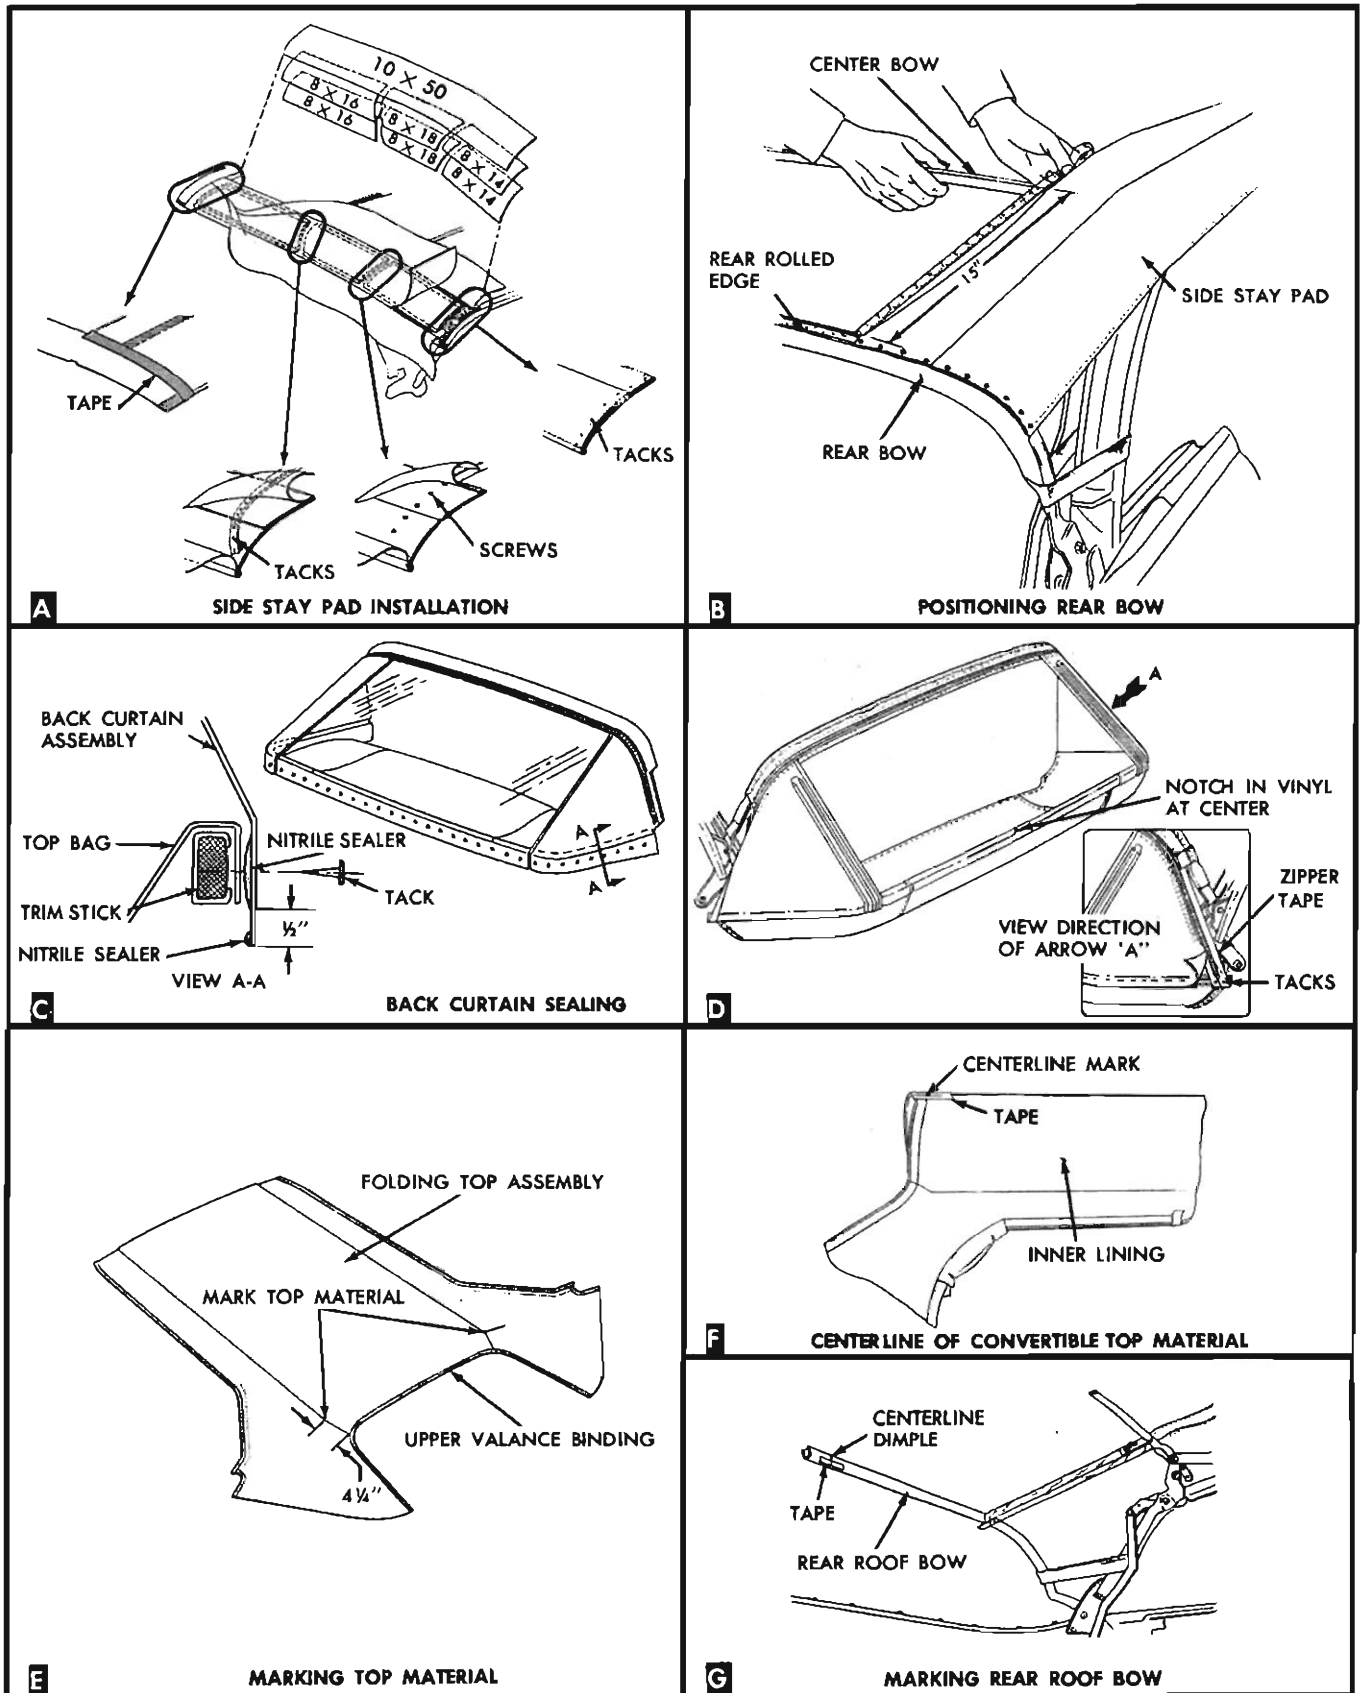

Fig. 36—Installing New Folding Top Trim Material
3. Tack side stay pads in conventional manner to rear roof bow and stay tack pads to front roof rail. Make sure inboard edge of pad is properly aligned within depressions in bow and rail. Stay tack pads to front bow. Inboard edge of pad should be located within 1/4" of outboard edge of front bow felt silencer. Install pad to center bow with screws. Make sure inboard edge of pad is properly aligned within depression in bow. Install stay pad wadding (fig. 36, A) in conventional manner using an approved trim cement.
4. Trim selvage end of side stay pads just forward of rear rolled edge of rear roof bow (fig. 36, B).
6. Place back curtain window assembly on a clean covered work bench with exterior (vinyl) surface of back window valance facing down. (The large pliable back window must be handled carefully to avoid possible damage due to scratches, abrasions, etc.). Apply a bead of convertible top sealer (nitrile) along lower edge of back curtain material in area which will be tacked to rear and rear quarter trim stick (View "A-A" in Figure 36, C).
7. Apply a bead of convertible top sealer (nitrile) along lower selvage edge of back curtain (fig. 36, C).
NOTE: *Notch in back curtain vinyl at lower edge indicates centerline of back curtain assembly (fig. 36, D). In addition, back curtain lower edge should extend 1/2" below lower edge of sticks as shown in View "A-A", Figure 36, C.*
10. Tack curtain to rear and rear quarter trim sticks. On right side, tack zipper tape to forward edge of rear quarter trim stick. (See View "A" in Figure 36, D).
23. Using a pencil, mark top material (mark should be approximately $\frac{1}{2}$ " in length) at deck seam $4\frac{1}{4}$ " from edge of top material upper valance binding (fig. 36, E).
24. Fold new top material in half so that inner lining of top material is exposed (fig. 36, F). Install a 6" piece of tape on inner surface at centerline fold of new top material. Using a pencil, mark the approximate centerline of new top material along entire length of tape. Be sure back will be visible inside of body after new top is installed on convertible top framework.
25. Along forward surface of rear roof bow install a 1" piece of tape at centerline dimple of rear roof bow. Using a pencil, mark centerline of rear bow on tape (fig. 36, G).
NOTE: The deck seam mark will vary slightly ($\pm 1/4$ ") depending upon position of rear roof bow. Also check centerline mark on inner lining of top material. Mark should correspond to centerline mark on rear roof bow (fig. 36, G).